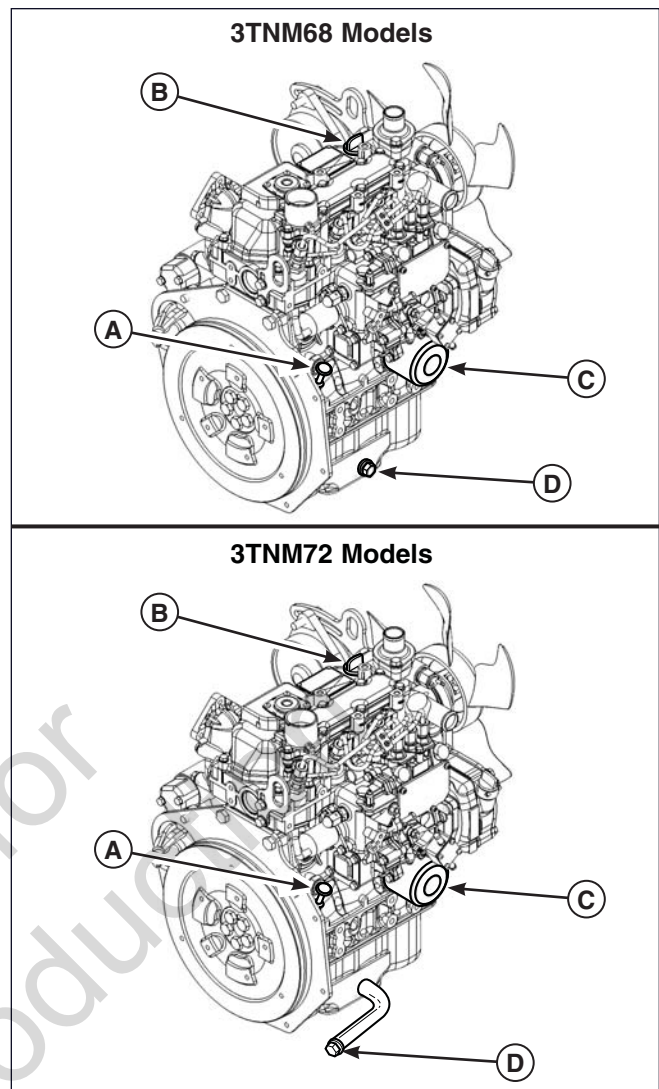

Figure 20. Engine Oil Fill
Refer to Figure 20 for dipstick and oil fill locations. Refer to the engine owners manual for specific engine oil check and fill procedures. Also refer to the engine owners manual for specific engine oil and filter change procedures
2. Remove the dipstick (A, Figure 20) to vent the crankcase and allow the engine oil to drain easily.
3. Place a small pan under the oil drain cap (D) to catch the oil. Using the appropriate tools, remove the oil drain cap and drain the engine oil.